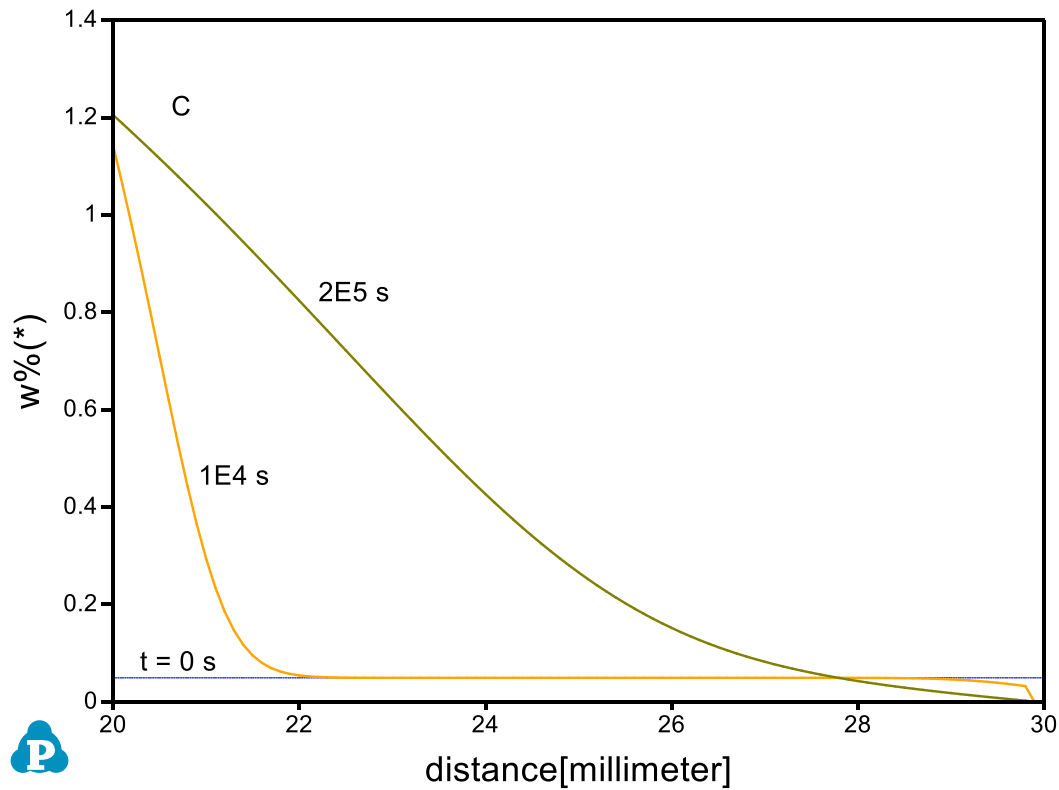

Figure 4.8.2: Calculated composition profiles at 1273 K for 1E4s, and 2E5s
- The calculated plot is shown in Figure 4.8.2. Enlarge the composition range between 0 and 1.4 (wt%) to clearly display Carbon composition. Add text and change graph appearance following the procedure in Pandat User's Guide 2.3.1;